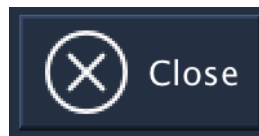

Figure 17: Close Button
- When the user clicks the "Close" button (Figure 17), it will send command to close all the motor and sensor ports and then exit the program.